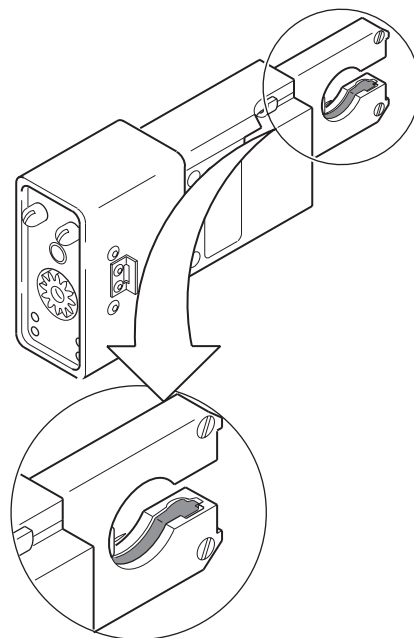

Figure 26 Inspect Exposed Surfaces of the Weld Head
1. Inspect the micro weld head for cleanliness. Pay close attention to the rotor area. See Figure 26.
1. Remove dirt, carbon, and vapor deposits from the weld head with a clean, soft cloth and a solvent such as alcohol. See Figure 26.